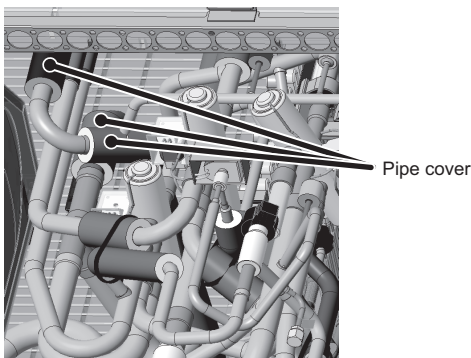

Figure 2
(1) Remove three pipe covers. (See Figure 2.)